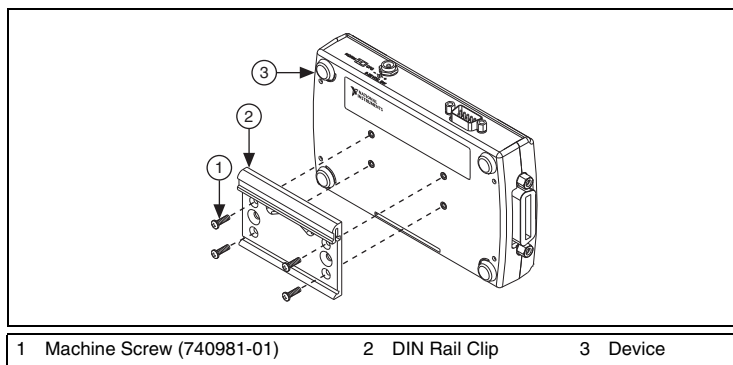

Figure 6. Attaching the DIN Rail Clip to a Device
1. Fasten the DIN rail clip to the device using a #1 Phillips screwdriver and four machine screws (part number 740981-01), included in the DIN rail mounting kit. Tighten the screws to a torque of $0.4 \text{ N} \cdot \text{m}$ ($3.6 \text{ lb} \cdot \text{in.}$). Figure 6 shows a DIN rail clip being attached to the device.